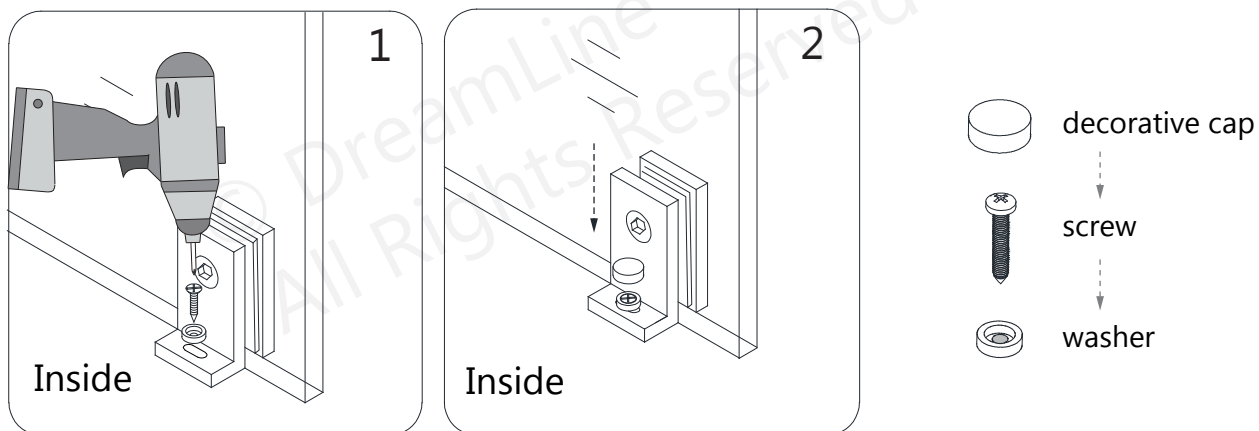

Fig 17
17. Fasten the **Bottom Bracket (#10)** to the buttress wall using an **ST4.2×25 Pan Head Screw (#09)** and **washer**. Cover the screw and washer with the **Decorative Covers (#10)**. **(Fig 17)**